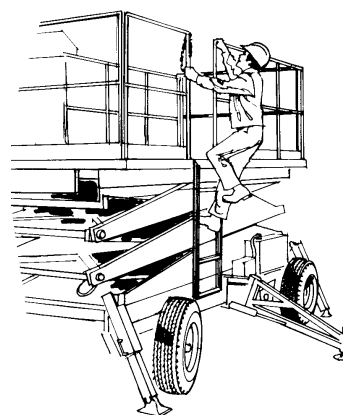

Figure 6.1: Three-point contact
- Use three-point contact and proper climbing techniques when mounting or dismounting from the machine (Figure 6.1).